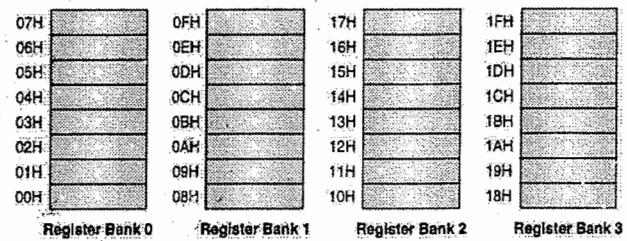

Fig. 1.18.3 : 8051 register banks and their RAM addresses
- The second bank of registers begins at 08H - 0FH. The third bank of R0 - R7 begins at 10H - 17H and finally the fourth bank of R0 - R7 at RAM locations 18H - 1FH as shown in Fig. 1.18.3.